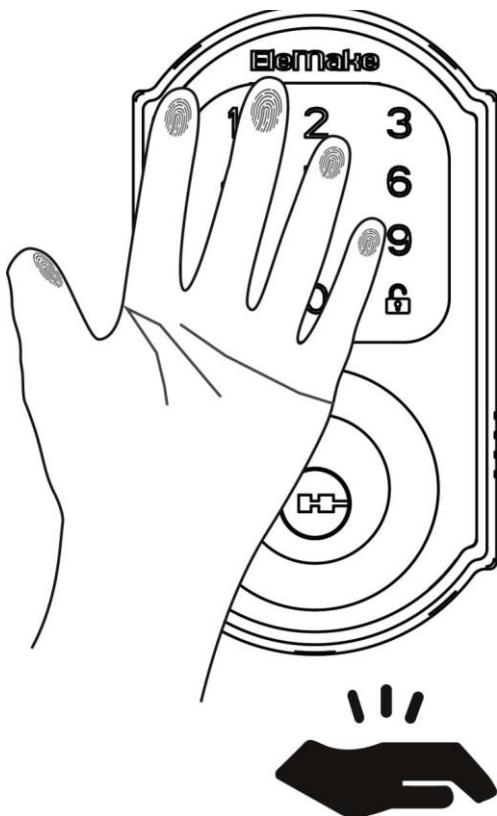
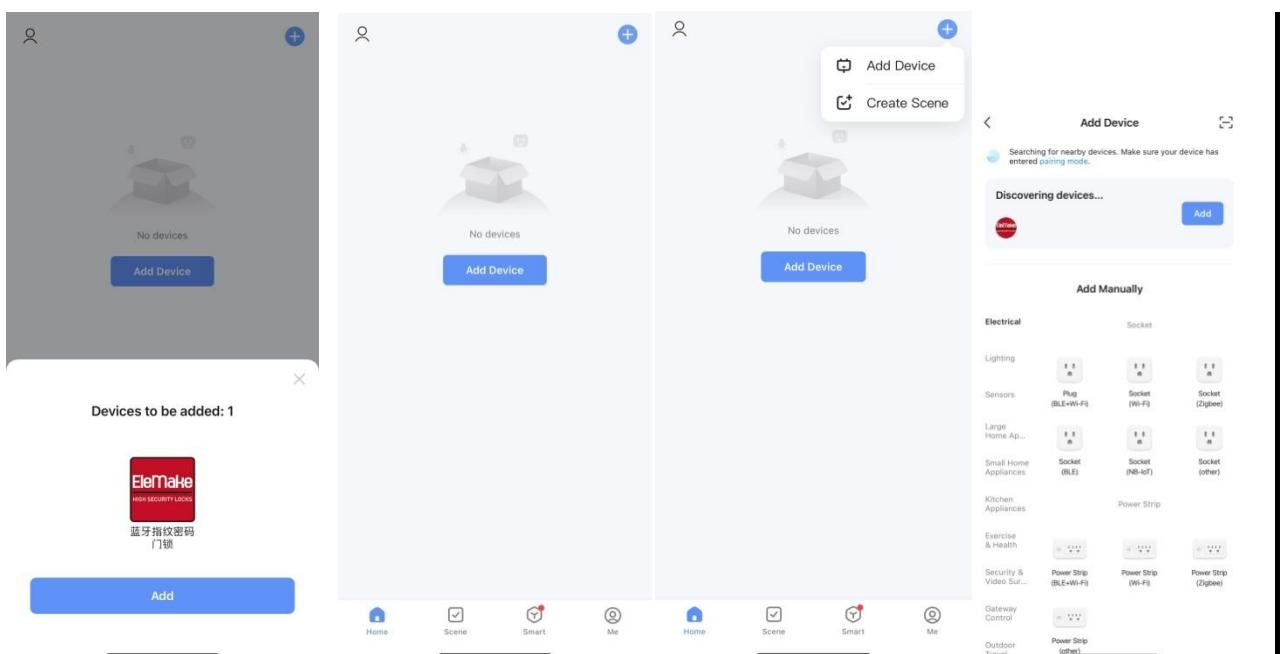
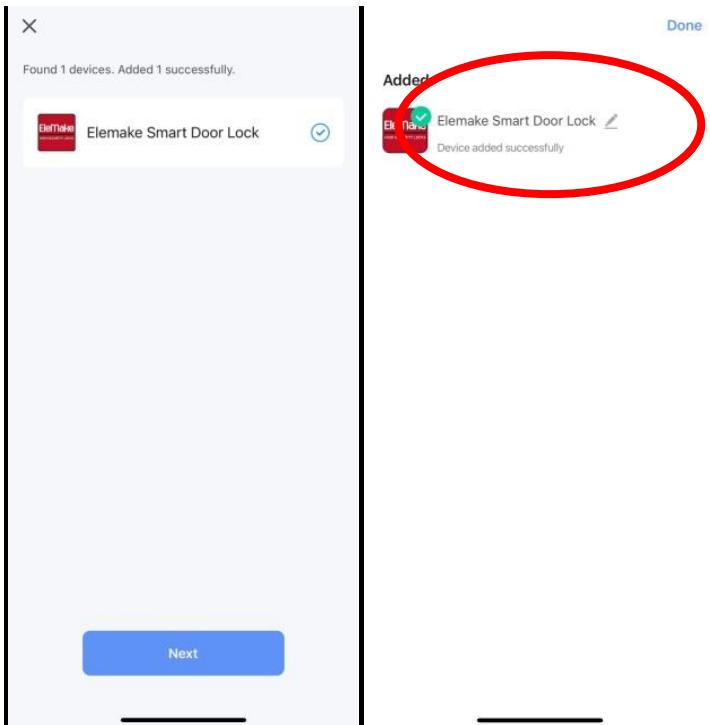
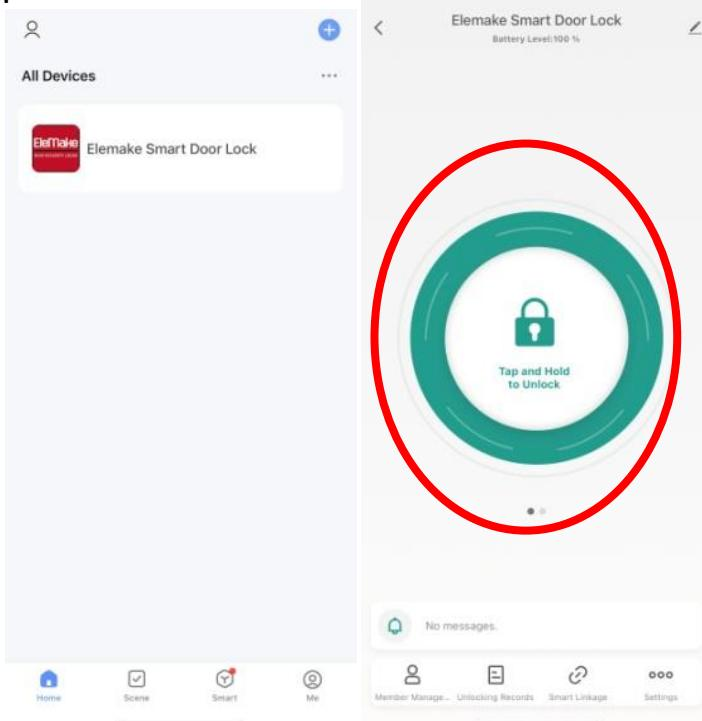

Figure L-1
Figure L-2
Figure L-3
Figure L-4
(2) Step 2--Connect the deadbolt to mobile phone App Smartlife with Bluetooth (See Figure L-1, Figure L-2, Figure L-3 ,Figure L-4)
- Touch the screen with back of your hand to activate the deadbolt.(See Figure L-1)
- Enter the Smartlife app, it automatically find the lock, or you can click “add the device “to search the deadbolt. Then will see the device with Elemake logo. .(See Figure L-2)
(d) Click the deadbolt's logo to connect the deadbolt, Name the deadbolt and save. .(See **Figure L-3**)
(e) If successfully connected the Smartlife app with the deadbolt. The opening button on the screen will turn to green colored . User can use the mobile phone to unlock the deadbolt via the Bluetooth. (See **Figure L-4**)